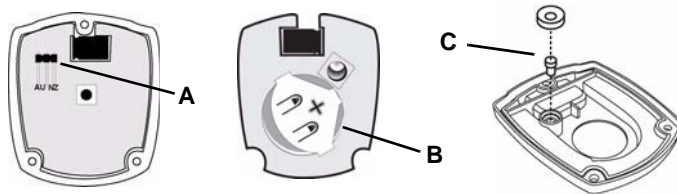

Figure 2 Transmitter internal components
**Caution:** Carefully separate the rear housing cover, ensuring the reset button plunger assembly does not fall out of the housing (Figure 2).
2. Slide the battery under the battery holder, ensuring that it is fully inserted and that the positive terminal (+) faces up (Figure 2).
3. Turn the board over to access the side with the frequency band selection pins (Figure 2).
4. Slide the new battery under the battery holder, ensuring that it is fully inserted and that the positive terminal (+) faces up (Figure 2).